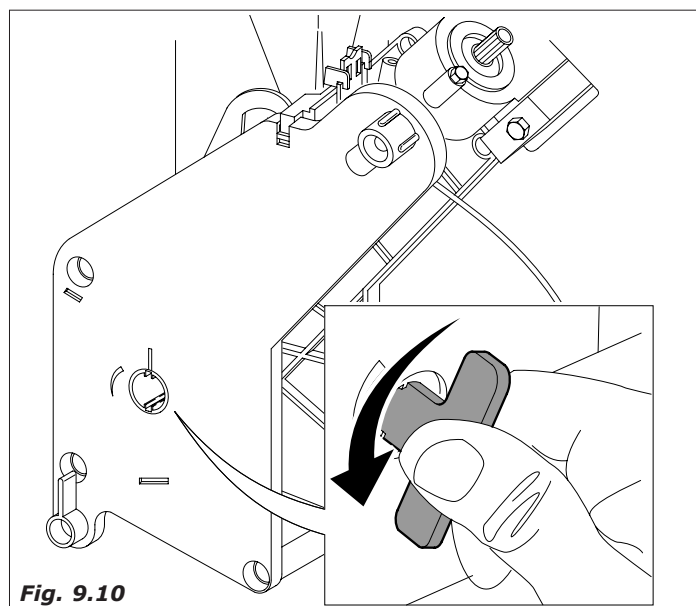

Fig. 9.10
- Every six (6) months it is necessary to substitute the water contained in the refrigerating tank ; so as to effect this operation put the drain hose in a bucket. (Fig. 9.10)
To do this, use the spanner provided turning it in the direction indicated by the arrow (*Fig. 9.10*), so as to detach the lower filter from the upper one that is attached to the heater unit.